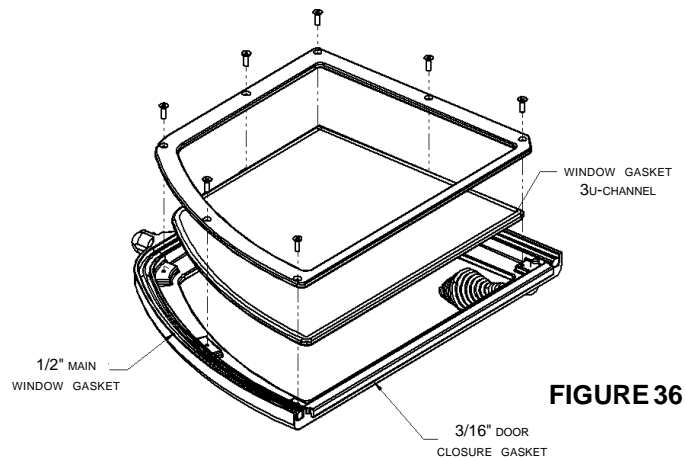

FIGURE 36
4. Pack a new gasket into the channel by pressing it firmly into the gasket cement. Wait until you have placed all but a couple inches from the end before you trim the end to an exact fit. Use only high temperature rated gasket cement (see Figure 36). Contact your dealer for replacement gasket.